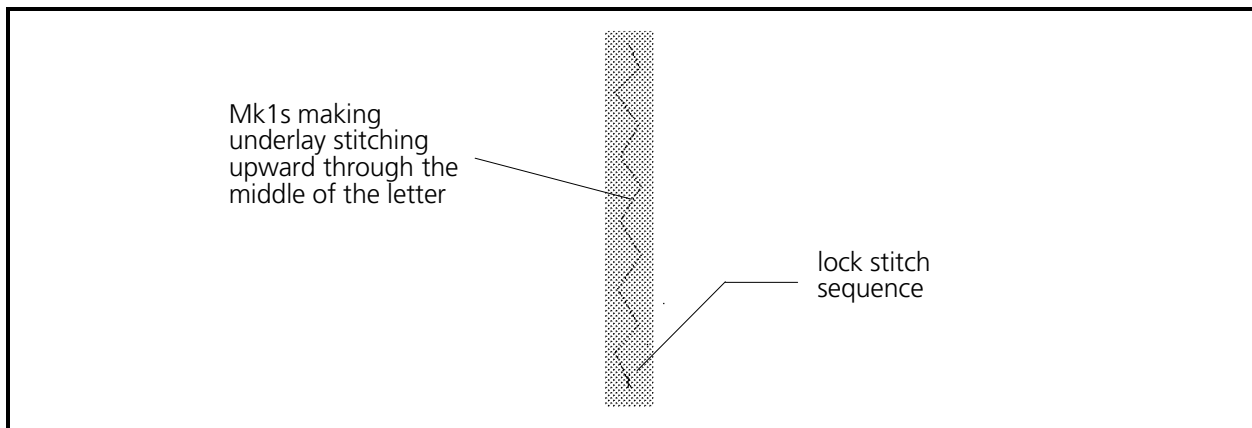

Figure 6-36
1. Select Needle Up, put a Mk1 at the bottom portion of the letter **I**, then select Normal Stitch (see Figure 6-36). To keep stitching inside the letter, put the Mk1 inside the letter, not on the line.
3. Lay down a running stitch underlay in a slight zig zag pattern of Mk1s up the length of the letter **I** (see Figure 6-36).